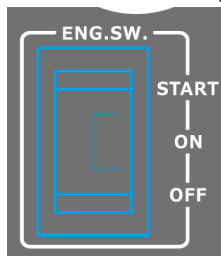

Figure 9: Stopping generator
3. Press and hold the Push Start/ON/OFF button to OFF for 2-3 second. (see Figure 9).